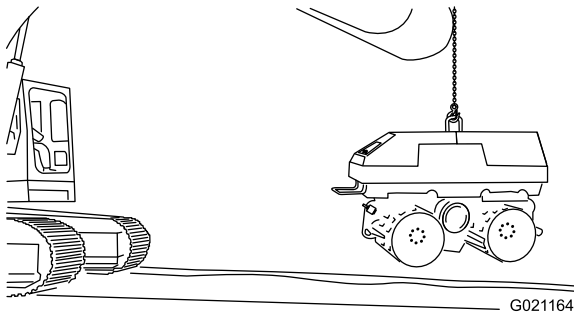

Figure 46
- A. Secure the lifting equipment to the lifting ring of the machine (Figure 46); refer to Lifting the Machine (page 30).
- B. Slowly raise the lifting equipment to rotate the machine so the top of the machine is up (Figure 46).